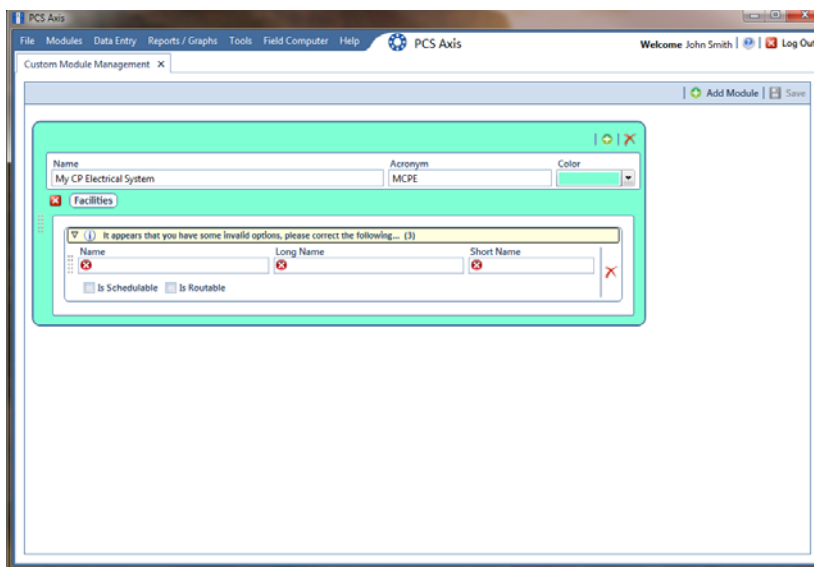

Figure 2-49. Custom Module Management
- 3 To set *Name*, *Acronym*, and *Color* properties for the user defined module, follow these steps (Figure 2-49):